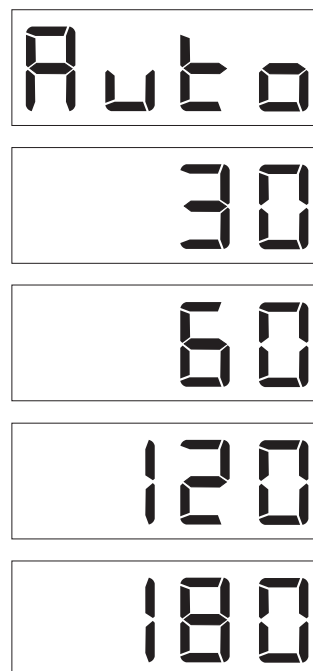

Figure 30. Warm-Up Adjustment
4. Press the **UP ARROW** button (↑) to change the setting from "AUTO" (default) to **30, 60, 90, 120, or 180** seconds (Figure 30). Verify the time selected by reading the value on the 7-segment display.